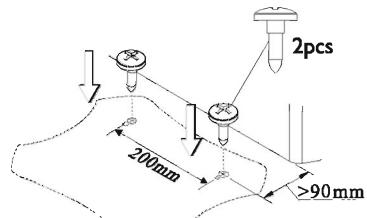

Figure 1
**Step 1.** Mark the bodywork where you want to install the amplifier according to the measures indicated on figure 1.Take care how much space need to contain the whole amplifier and make sure that the amplifier must not crush the car body.